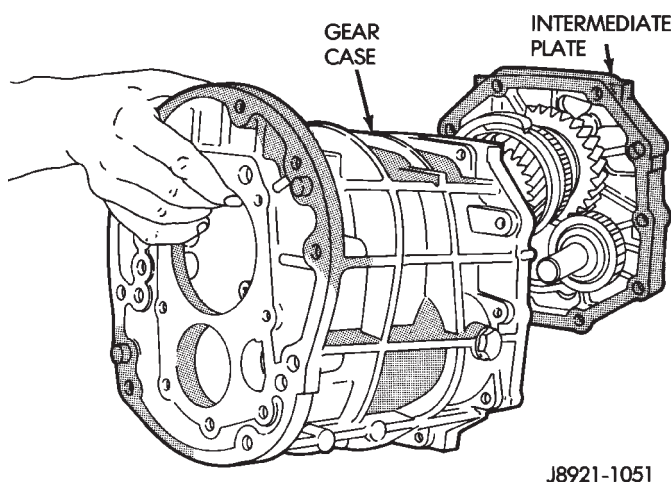

Fig. 32 Remove Intermediate Plate from Transmission Case
(24) Separate the intermediate plate from the transmission case (Fig. 32).